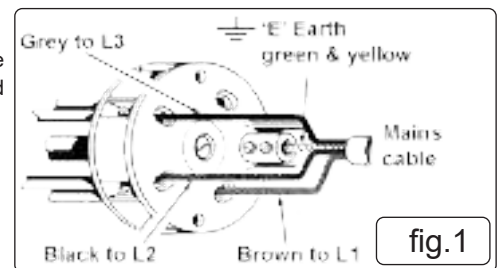

fig. 1
1.2.1. This product must be fitted with a 3 phase plug wired as illustration in (fig 1), wired to an appropriately fused supply.
- WARNING! IT IS ESSENTIAL TO OBSERVE ANTI-CLOCKWISE (fig.1) PULLEY DIRECTION ON INITIAL START UP. IF CLOCKWISE OBSERVED, STOP IMMEDIATELY AND CONSULT A QUALIFIED ELECTRICIAN TO INVERT 2 PHASES.**